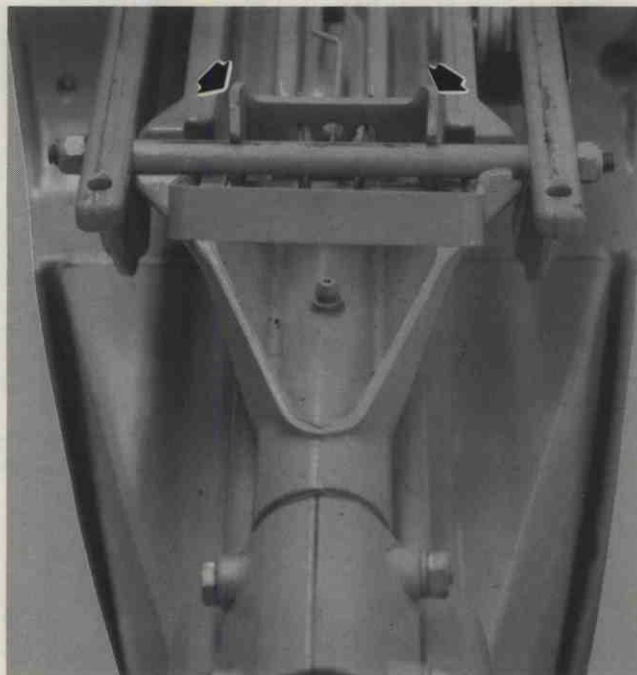

Figure 7. Lubricating Swivel Bracket.
1. Tilt motor up and lock in position. Figure 7.
3. Wipe clean and apply a light coating of lubricant to areas indicated in Figure 7.